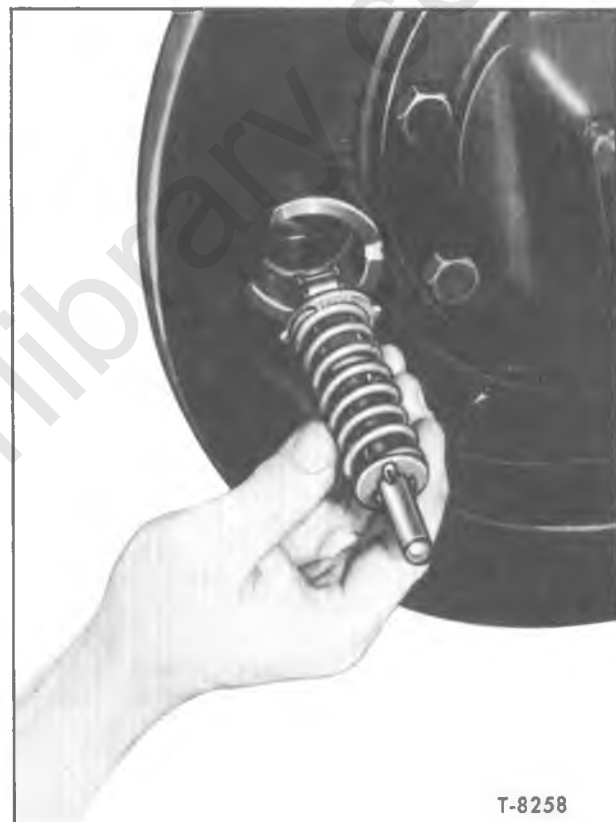

Figure 35—Installing Wedge Assembly
5. Install wedge assembly in actuation housing (refer to fig. 35). Be sure rollers are seated correctly in retainer cage and make good contact with plungers.